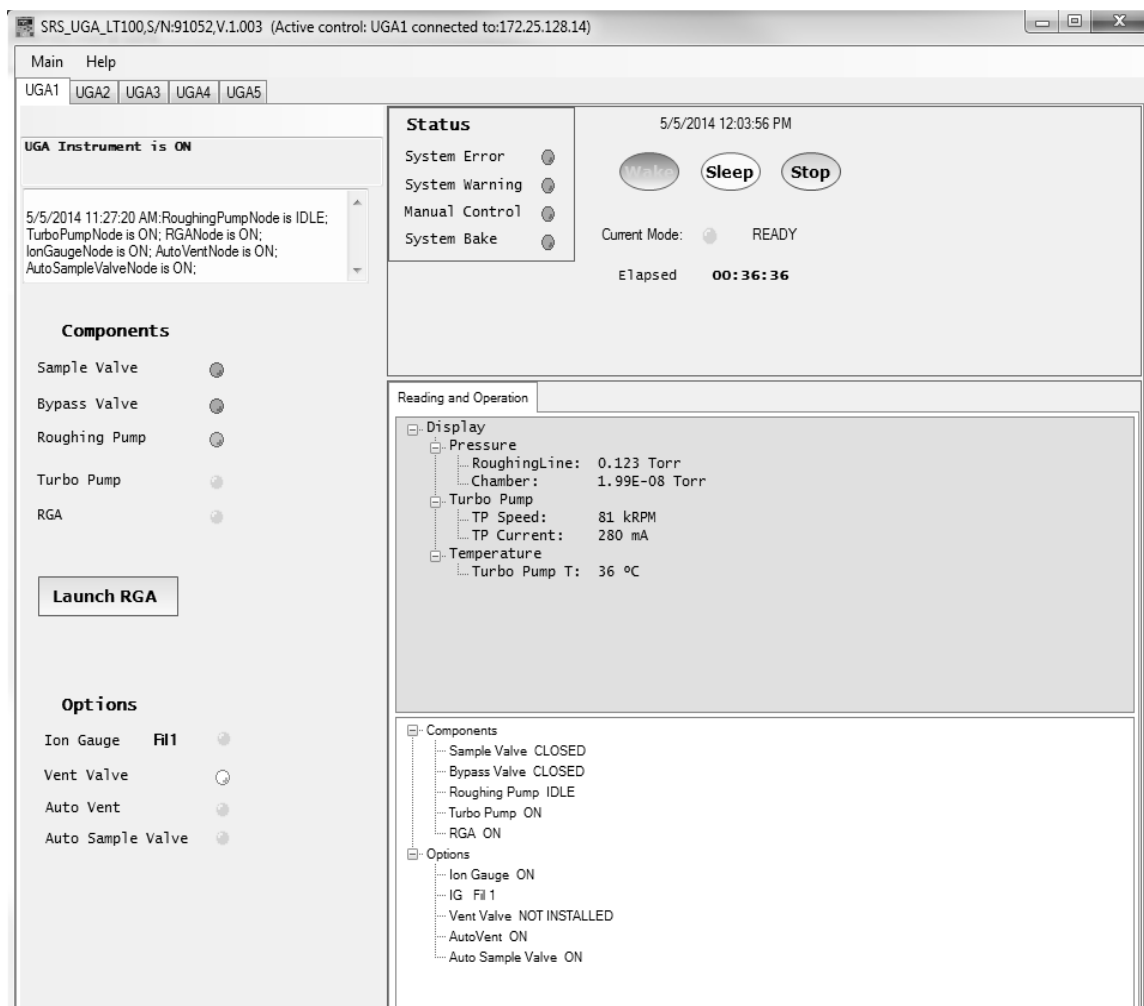

Fig. 2-12. Screenshot of UGA control software after proper TCP/IP Ethernet connection. In the title bar, the connection is described.
- The program shows the complete present state. Fig. 2-12 shows that Ion gauge is installed in this Unit. The unit is stopped, which is the Off state, etc.